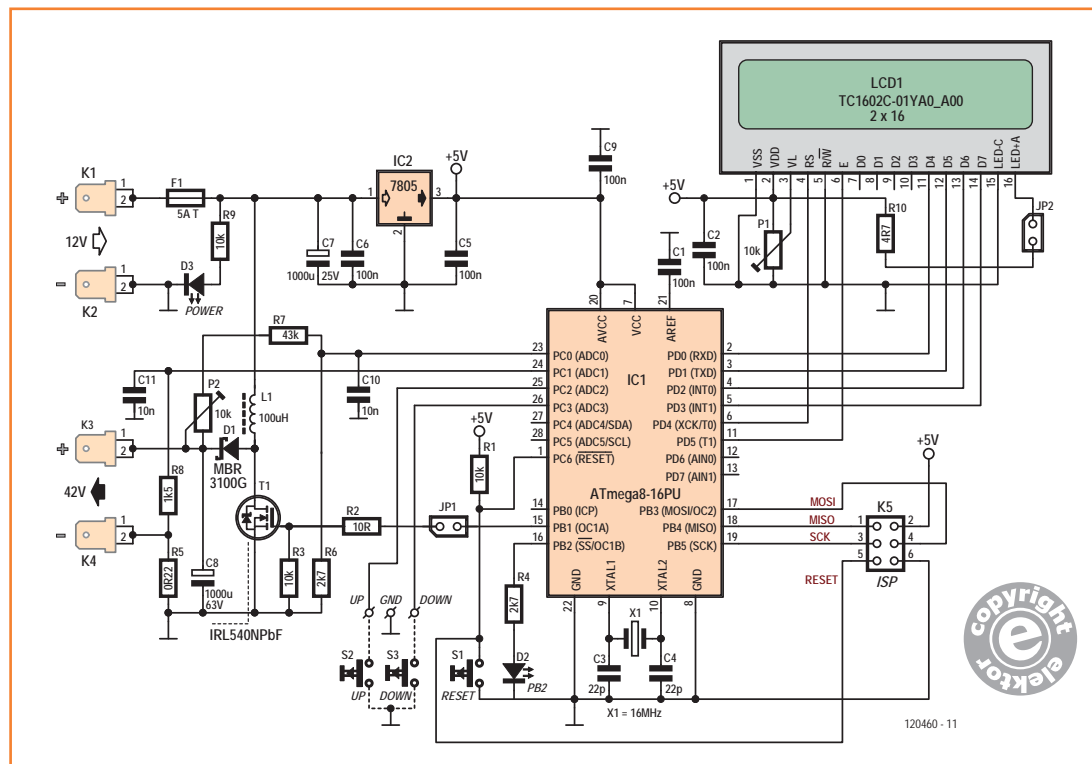

Figure 2. The microcontroller-regulated step-up converter.
**Figure 2** shows how the step-up converter circuit with L1, D1, C8 and MOSFET T1 is configured. An Atmel ATmega8-16PU microcontroller together with the appropriate firmware produces the PWM signals to switch MOSFET T1. The PWM signal is produced from pin PB1 with a frequency of 66 kHz, using the internal fast-PWM mode. The output voltage is controlled by the mark/space ratio of the PWM switching waveform, and the microcontroller must be able to sense the output voltage level in order to control the waveform. This voltage feedback takes place over the voltage divider network formed by R6, R7 and P2. The preset is necessary because the data sheet indicates that the reference voltage level may be between 2.3 and 2.9 V and P2 allows some degree of calibration of the circuit. If the resistor values do not allow enough adjustment or if the value of R7 (43 k $\Omega$ ) is difficult to source, adjustments in the firmware can be made to compensate. To set up the circuit you can use a known accurate DVM to measure the output voltage and tweak the preset until the displayed value corresponds